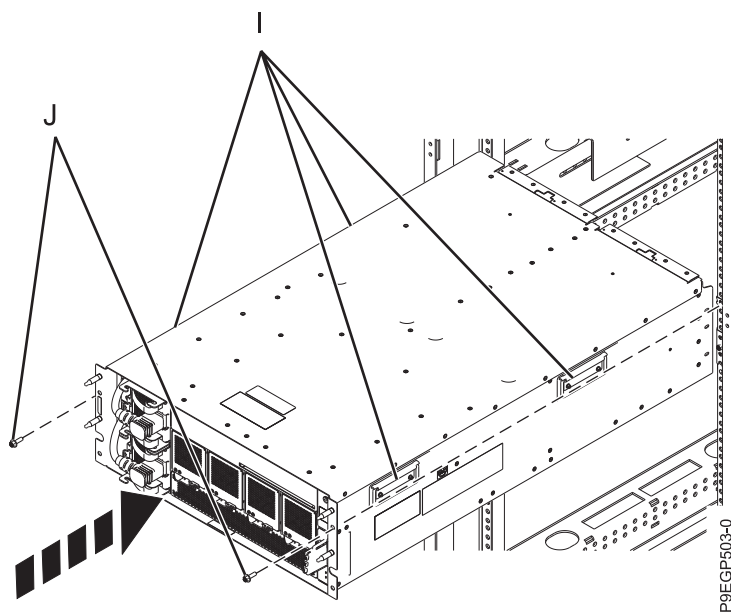

Figure 9. Installing the drawer into a rack
4. Using three people, have two people hold onto the four handles **(I)**, as shown in Figure 9, and one person in front of the drawer to guide the drawer. Lift the drawer and position it over the front of the rails.
6. Install the two M5 securing screws **(J)** through the drawer and into the nut clips on the left and right rails. See Figure 9.